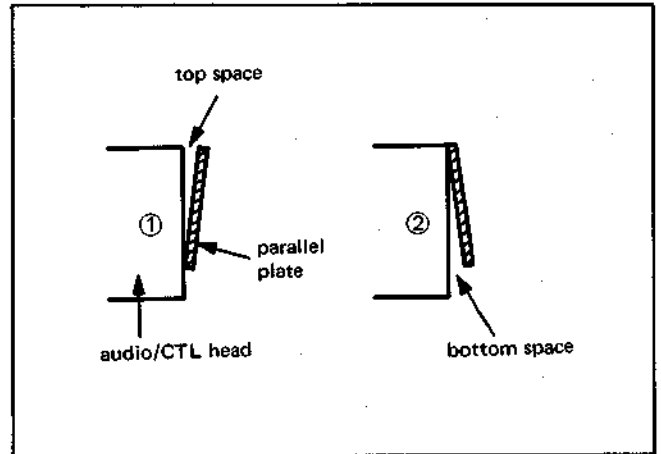
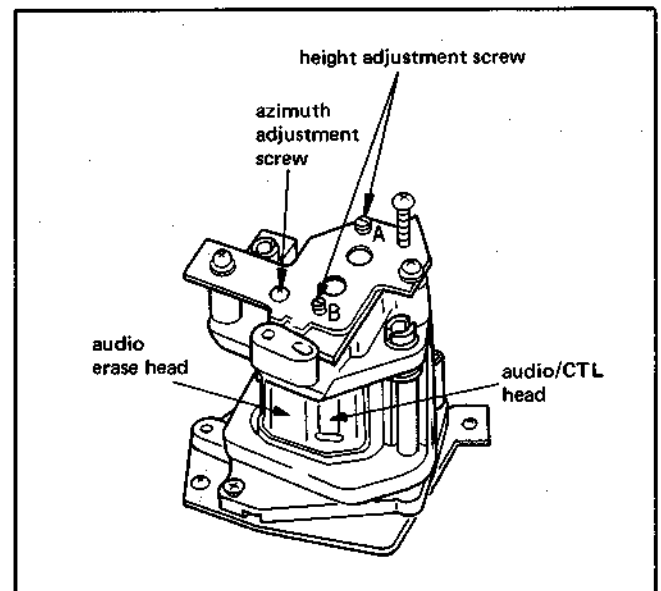

Fig. 1-26
Fig. 1-27
- 2) With No. 5 guide as reference, confirm that there is no space between the audio/CTL head and the parallel plate. If there is space at the top (Fig. 1-26 ①), adjust by turning the height adjustment screw A counterclockwise. (Fig. 1-27)
If there is space at the bottom (Fig. 1-26 ②), adjust by turning the height adjustment screw A clockwise.